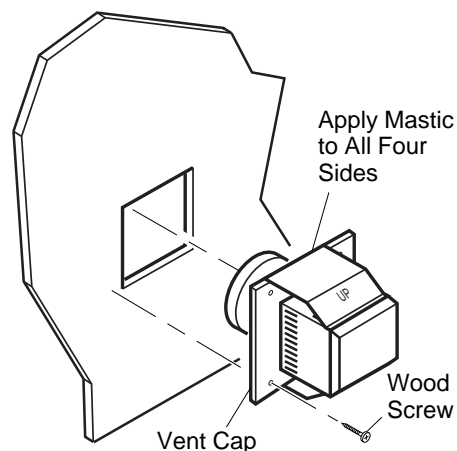

Figure 13 - Installing Horizontal Vent Cap
4. Apply a bead of non-hardening mastic around the outside edge of the vent cap. Position the vent cap in the center of the 7 1/2" or 10" hole on the exterior wall with the arrow on the vent cap pointing up. Insure proper clearance of 1" to combustibles is maintained. Attach the vent cap with four wood screws supplied (see Figure 13). **Note:** Replace the wood screws with appropriate fasteners for stucco, brick, concrete, or other types of siding.